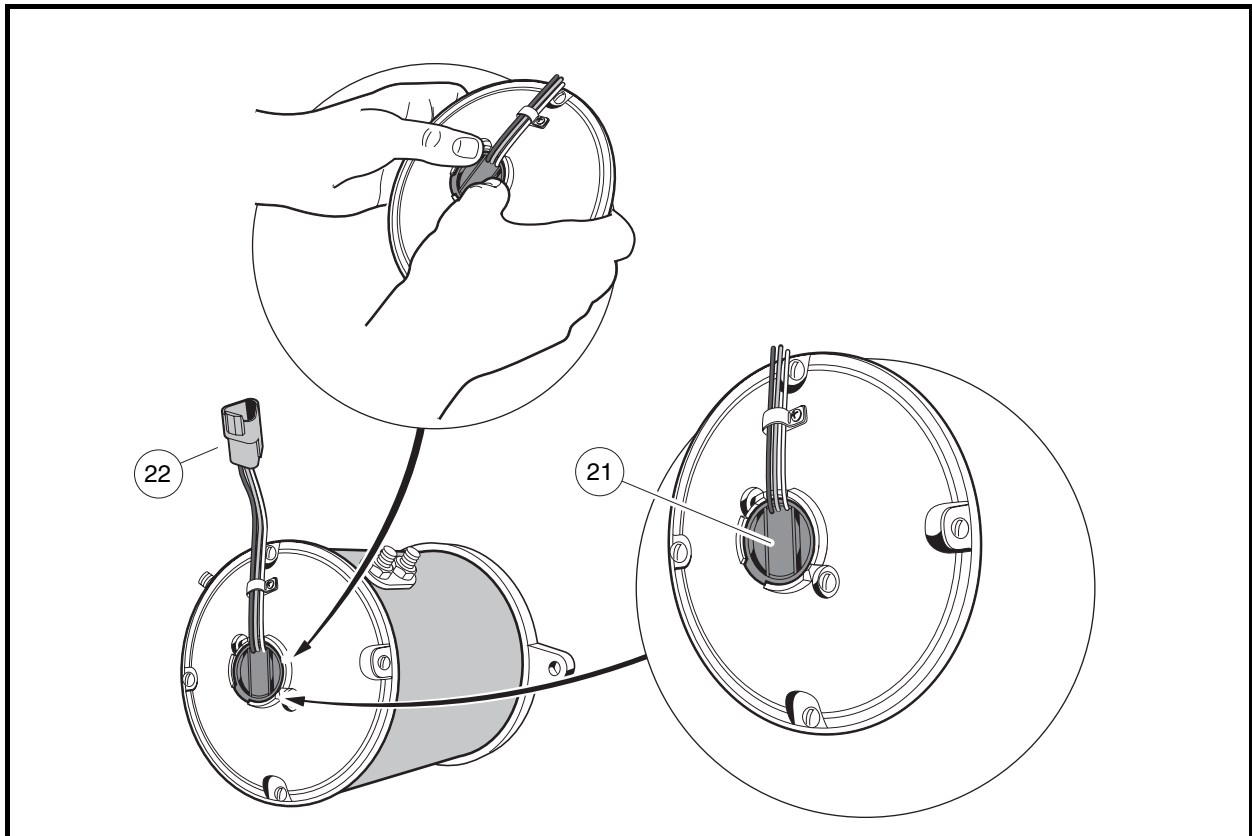

Figure 16-19 IQ Motor Speed Sensor
2. Disconnect the three-pin connector (22) from the vehicle wire harness (**Figure 16-19, Page 16-15**).
3. Using a screwdriver, gently pry the motor speed sensor (21) from recessed area on the motor end shield.
1. Position the motor speed sensor (21) as shown and firmly press the speed sensor into the motor end shield. Sensor should fit flush against the motor (**Figure 16-19, Page 16-15**).
2. Connect the three-pin connector (22) to the vehicle wire harness.